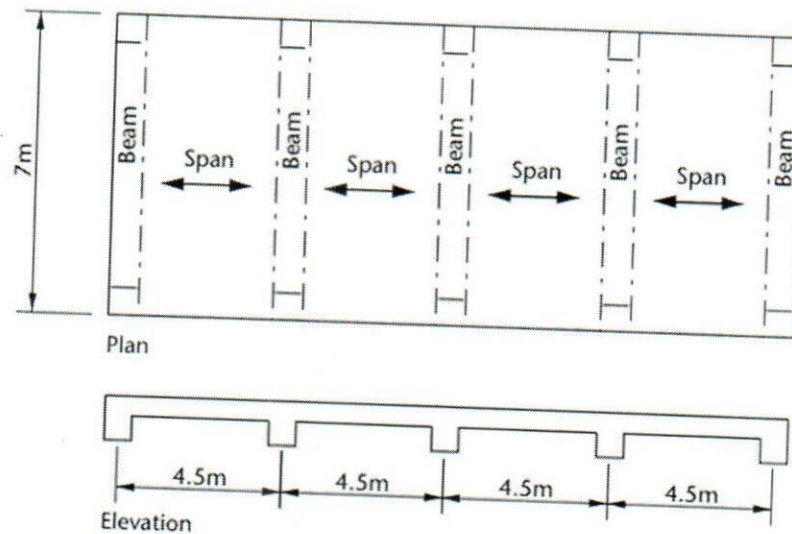

Figure Q3
- b) Figure Q3 shows a four-span continuous solid slab spanning in one direction. Each span supports a permanent load g_k of 0.75 kN/m and a variable load q_k of 5 kN/m, in addition to its self-weight. The characteristic specific weight of the concrete can be assumed equal to 25 kN/m³. The concrete class is C20/25 and the reinforcement is S500. Assume that the end support condition at the outer support is pinned. The absolute values of the ultimate bending moment near the middle of the end span and at the first interior support can be taken as $0.086FL$ where F is the total ultimate load and L is the effective span length. In the following, you are asked to design the reinforced concrete slab in accordance with EN 1992-1-1.